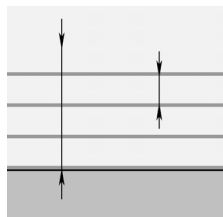

图 2-97 “Maximum cut depth and total depth”
- “Maximum cut depth and total depth”: 通过输入最大切削深度“Maximum cut depth”和整个切削深度“Total depth”来确定多层切削, 如图 2-97 所示。